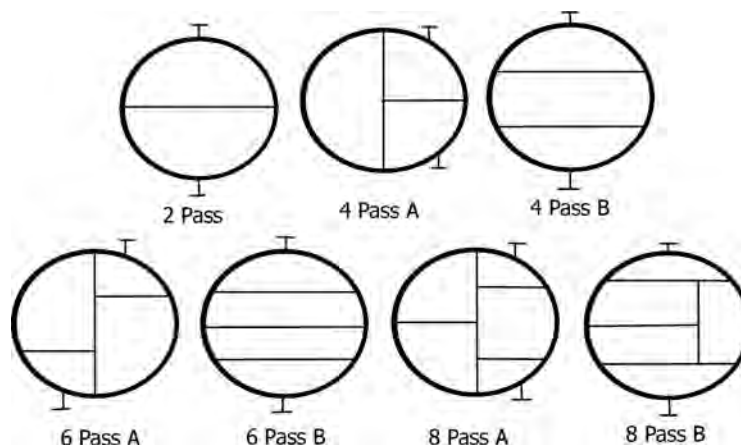

FIGURE 10.14 Typical pass partitions for two to eight tube passes.
- By changing pass partitions in the channel and floating heads as illustrated in Figure 10.14.